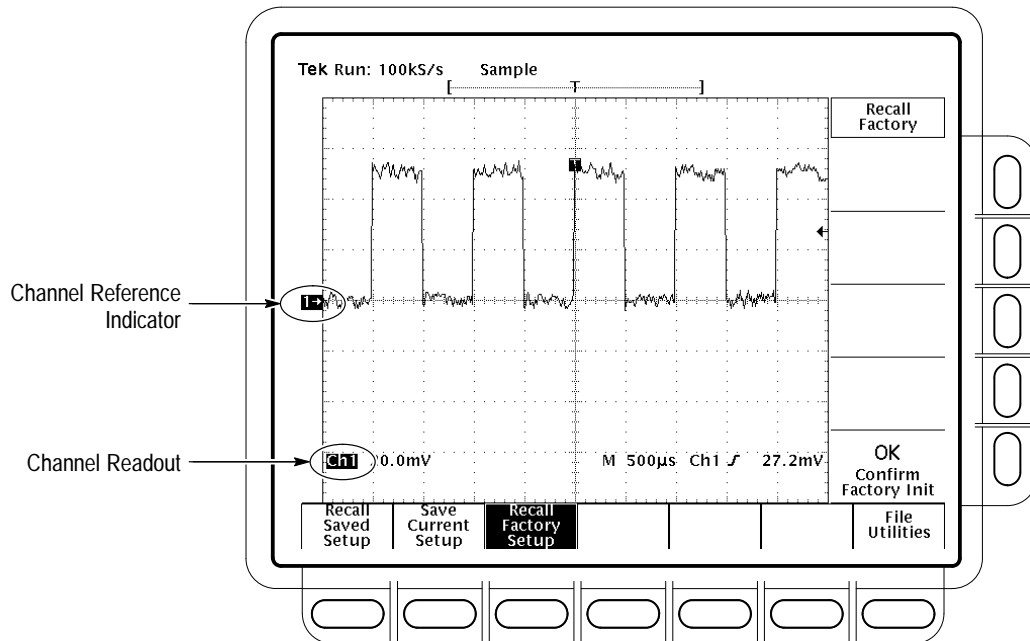

Figure 3-3: The Channel Readout
1. Press the Save/Recall **SETUP** button to display the Setup menu (see Figure 3-3). Press the button directly below the **Recall Factory Setup** menu item.
To determine which channel is currently selected, check the *channel readout*. It shows the selected channel in inverse video in the lower left corner of the display. The *channel reference indicator* for the selected channel also appears in reverse video along the left side of the display. (See Figure 3-3.)